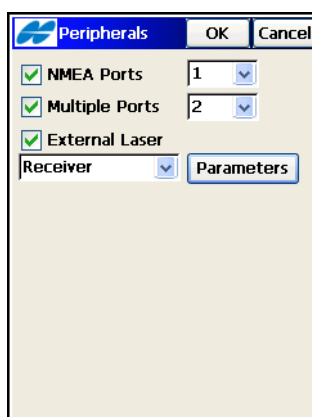

Figure 4-19. Rover Receiver Options
8. To use the *CSD* form of data transmission for receiving RTK corrections through a cellular phone used as a modem, select the *RTK protocol* option from the **Help Icon** menu in the upper left corner of the screen (Figure 4-19 on page 4-14).
If Multiple Ports are set for peripherals (see Figure 4-19 on page 4-14), depending on the number of ports selected, there can be up to two *Rover Radio* screens to configure radios for data input.
If NMEA Ports are set (see Figure 4-19 on page 4-14), depending on the number of output ports selected, there can be up to two *Config: Output Radio* screens to configure radios for NMEA data output.
2. Check and enable the *NMEA Ports* box on the **Peripherals** screen (Figure 4-19 on page 4-14) and select the number of ports for output of NMEA messages.
2. Check and enable the *External Laser* box on the *Peripherals* screen (Figure 4-19 on page 4-14) and select the device (either *Receiver* or *Controller*) the laser is connected to.